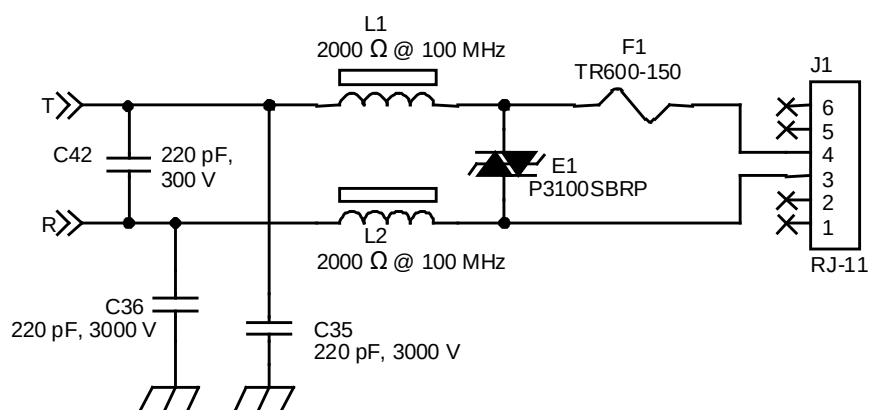

**Figure 12: Suggested Over-voltage Protection and EMI Suppression Circuit**
Figure 12 shows a recommended protection circuit topology. Fuse (F1) should be rated for 600 V operation and the bidirectional thyristor (E1) should have a minimum break-over of 275 V and be able to survive a 100 A fast transient. In addition to over-voltage and current protection, the line-interface designer should make provisions to prevent EMI emissions and susceptibility. Figure 12 also illustrates how L1, L2, C35, C36 and C42 can provide this suppression. The ferrite beads, L1 and L2, should be capable of passing 200 mA and have an impedance of  $2000\ \Omega$  at 100 MHz. C35, C36 and C42 should be 220 pF and rated for a breakdown voltage greater than the highest isolation voltage that is required for country compatibility. C35 and C36 should be returned to an earth ground. EMI suppression is dependent on the physical design of the overall circuit and not all the suppression components may be needed in every design and application. The values shown are typical and should be optimized for a particular design.
**Table 27: Reference Bill of Materials for Figure 12**